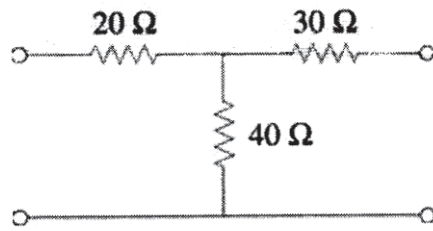

Fig. 3
- c) Determine the z parameters for the circuit shown in Fig. 3 [6]